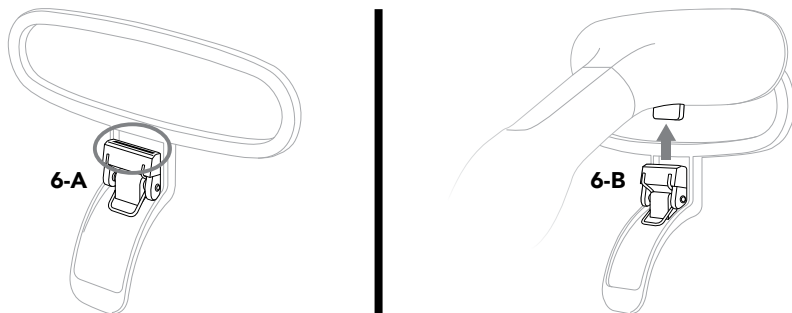

FIGURE 6
1. Locate hinged adapter on Crease Tool; note open slot on top (FIGURE 6-A).
3. Press Crease Tool firmly onto Steam Nozzle, ensuring tab fits into slot (FIGURE 6-B).